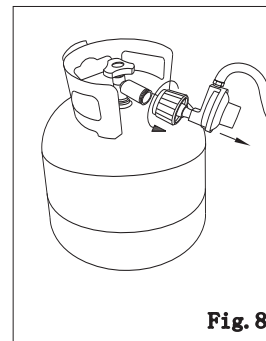

Fig. 8
5. When cylinder is empty, disconnect the regulator and the cylinder as per Fig.8.